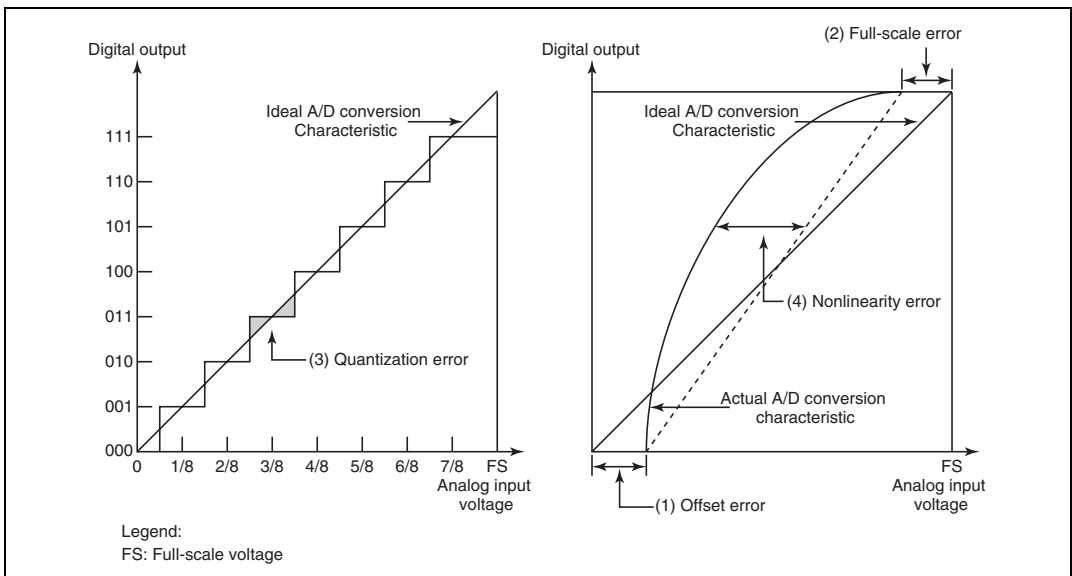

Figure 14.7 A/D Conversion Precision Definitions
- (1) Offset error
- (2) Full-scale error
- (3) Quantization error
- (4) Nonlinearity error
The above four kinds of error are described below with reference to figure 14.7. For the sake of clarity, this figure shows 3-bit mid-speed A/D conversion rather than 10-bit mid-speed A/D conversion. Offset error (see figure 14.7 (1)) is the deviation between the actual A/D conversion characteristic and the ideal A/D conversion characteristic when the digital output value changes from the minimum value (zero voltage) of 0000000000 (000 in the figure) to 0000000001 (001 in the figure). Full-scale error (see figure 14.7 (2)) is the deviation between the actual A/D conversion characteristic and the ideal A/D conversion characteristic when the digital output value changes from 1111111110 (110 in the figure) to the maximum value (full-scale voltage) of 1111111111 (111 in the figure). Quantization error is the deviation inherent in the mid-speed A/D converter, given by $1/2$ LSB (see figure 14.7 (3)). Nonlinearity error is the deviation between the actual A/D conversion characteristic and the ideal A/D conversion characteristic from zero voltage to full-scale voltage (see figure 14.7 (4)). This does not include offset error, full-scale error, and quantization error.